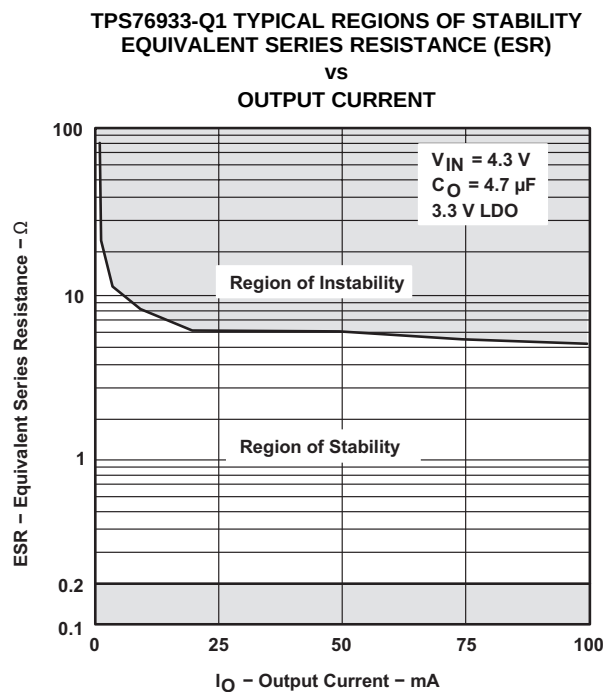

Figure 17.
- Changed TPS769xx part names to TPS769xx-Q1 in text and images. - Updated Figures 17 and 19 to include region of Instability below 0.2 Ω.	1 10